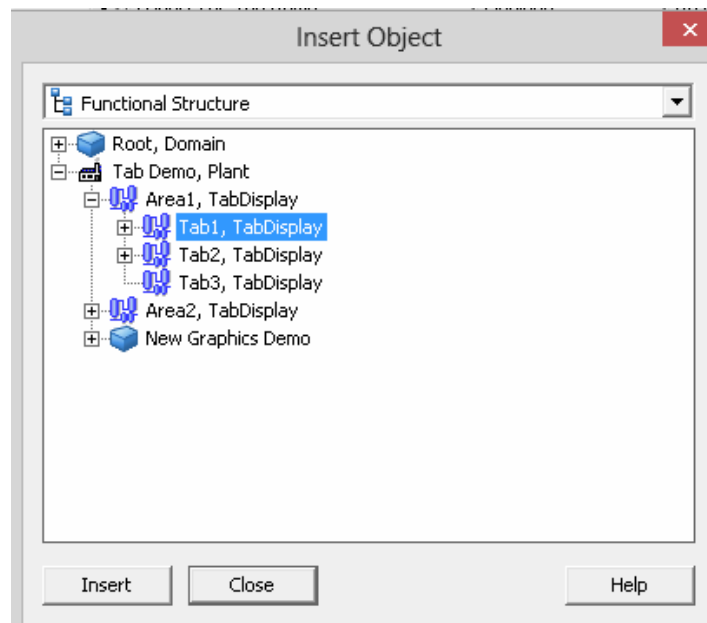

Figure 194. Select Object to Insert
3. In the Insert Object dialog that pops up, browse to the aspect object you want to insert and select it. See Figure 194.